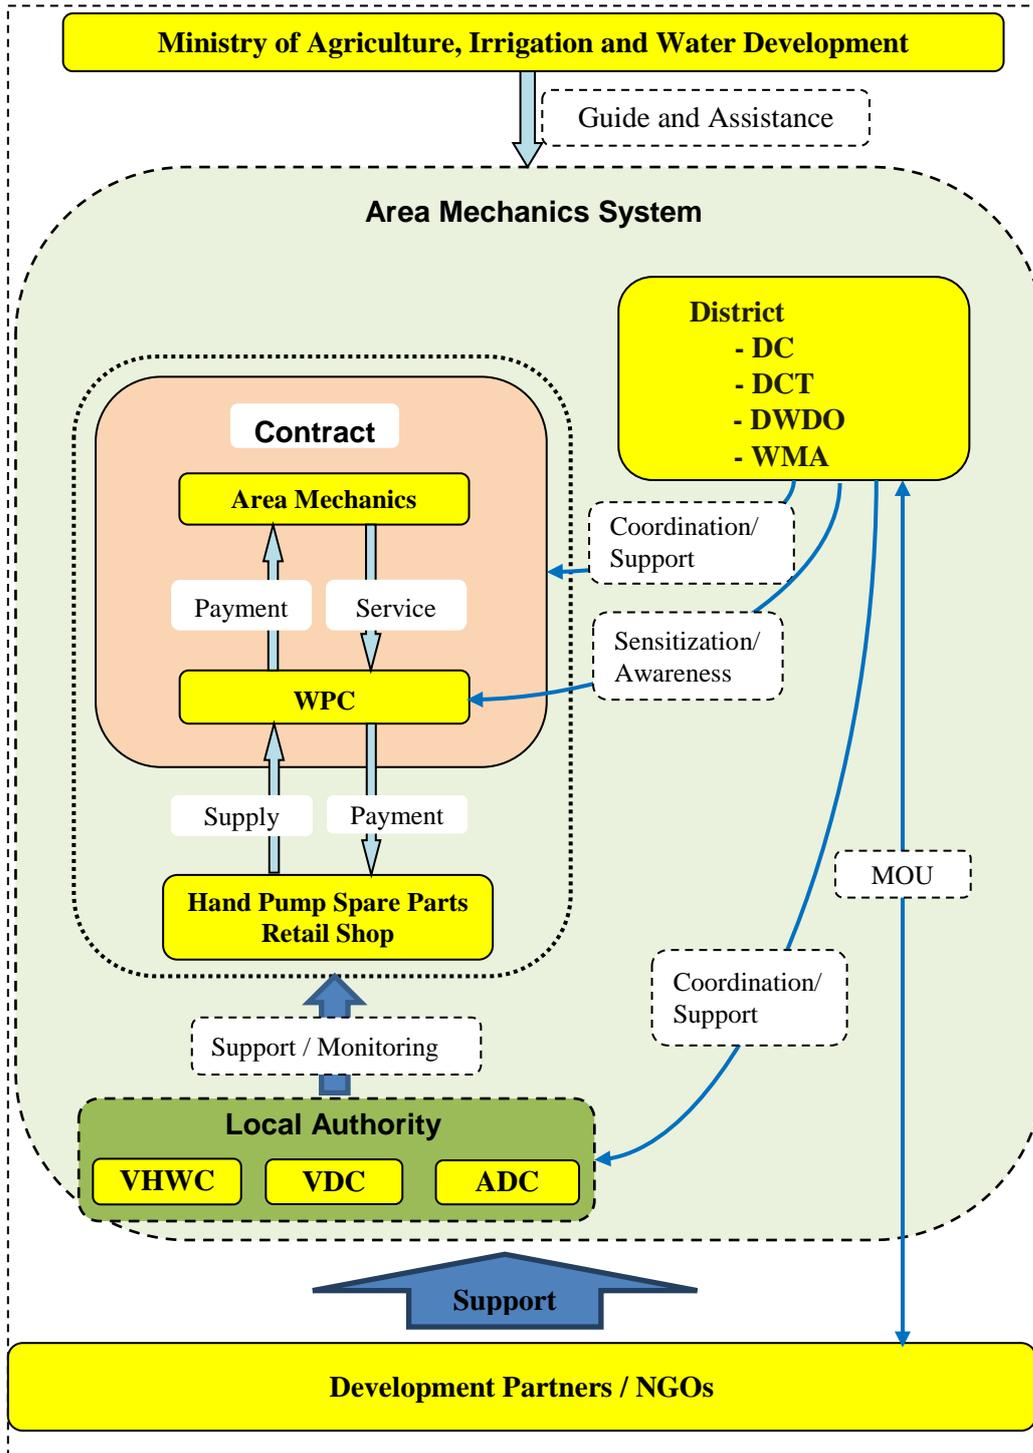

Figure 1 Proposed Ideal Area Mechanic System
- Planning for the establishment of the AMs in the District, as outlined in the flow chart above (See **Figure 1**)